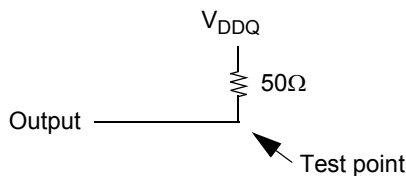

Figure 7. Pull-down slew rate test load
b. Pull-down slew rate is measured under the test conditions shown in Figure 7.